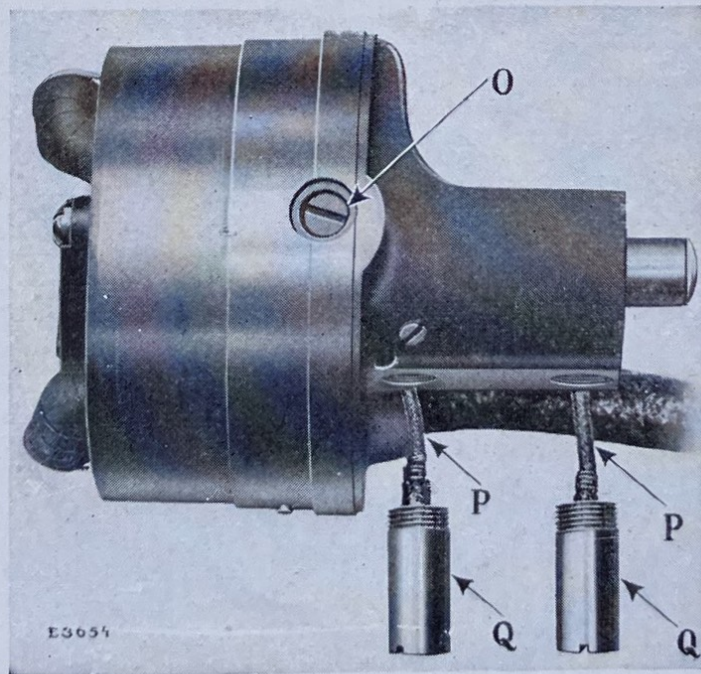
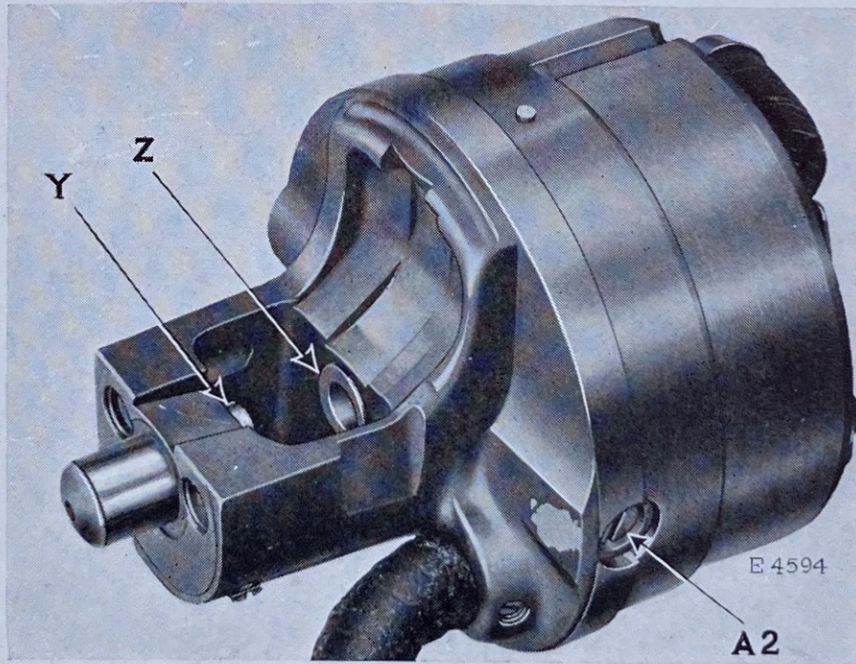

FIG. 20. VIEW OF MOTOR, SHOWING GREASE CUPS REMOVED
FIG. 24. VIEW OF MOTOR, SHOWING CLEARANCE BETWEEN BEARINGS FOR SPIRAL DRIVING PINION
2. No lubricant in grease cups (Q, Fig. 20, page 24).
3. Lubricating wicks (P, Fig. 20) not touching motor shaft.
Remove the two grease cups (Q, Fig. 20, page 24) to prevent the wicks (P, Fig. 20) being sheared off when replacing the armature in the motor frame.
The motor has two screws (O, Fig. 20) and (A2, Fig. 24, page 26), one being in each side of the motor frame. Take out these two screws, being careful to see that the springs which are under the screws do not fly out, then turn the motor frame so that the springs and brushes will drop out of the screw holes.
Place the spiral pinion (U, Fig. 21) in the recess between the two bearings in the motor frame, being careful to have the teeth of the spiral pinion toward the armature. Then gently replace the armature in the motor frame, passing the armature shaft through the hole in the spiral pinion (U). Push the armature into the motor frame as far as it will go, then push the spiral pinion against the inner bearing (Z, Fig. 24) in the motor frame, being careful to see that there is no grease or dirt between the pinion and bearing.
The brush marked with aluminum must be inserted in the screw hole in the side of the motor frame marked with aluminum, the unmarked end of the brush being inserted first with the marked side of the brush facing toward the marking on the motor frame. This will ensure a perfect contact of the brushes against the commutator surface of the motor. Having inserted the brushes and springs in the brush tubes (V, Figs. 22 and 23, page 25), replace the screws (O, Fig. 20, page 24) and (A2, Fig. 24, page 26) and turn each screw inwardly until the top of its head is flush with the top edge of the fibre tube.
See if motor armature revolves freely by running the finger over the spiral pinion (U, Fig. 21, page 25). If it turns stiffly, the spiral pinion may be set too tight against the inner bearing (Z, Fig. 24). In this case, insert a piece of heavy wire through the small hole in the centre of the end of the outer bearing (Y, Fig. 24) and gently tap the wire until the armature turns freely without end play. The clearance for the spiral pinion (U) between the two motor bearings (Y and Z, Fig. 24) must be only sufficient to allow the spiral pinion to rotate without friction. Too much clearance will cause the armature to vibrate when running, making the motor noisy. If there is too much clearance, gently tap the end of the outer bearing (Y, Fig. 24) toward the spiral pinion.
Fill the two grease cups (Q, Fig. 20) with Singer Motor Lubricant. See that the two felt wicks (P, Fig. 20) are not twisted or bent, as the ends of the wicks must press positively against the motor shaft to ensure proper lubrication. Replace the grease cups in the motor frame, being careful to insert the wicks into the holes in the motor bearings. Then fill the well in which the spiral pinion (U, Fig. 24) revolves, with Singer Motor Lubricant (**not oil**).